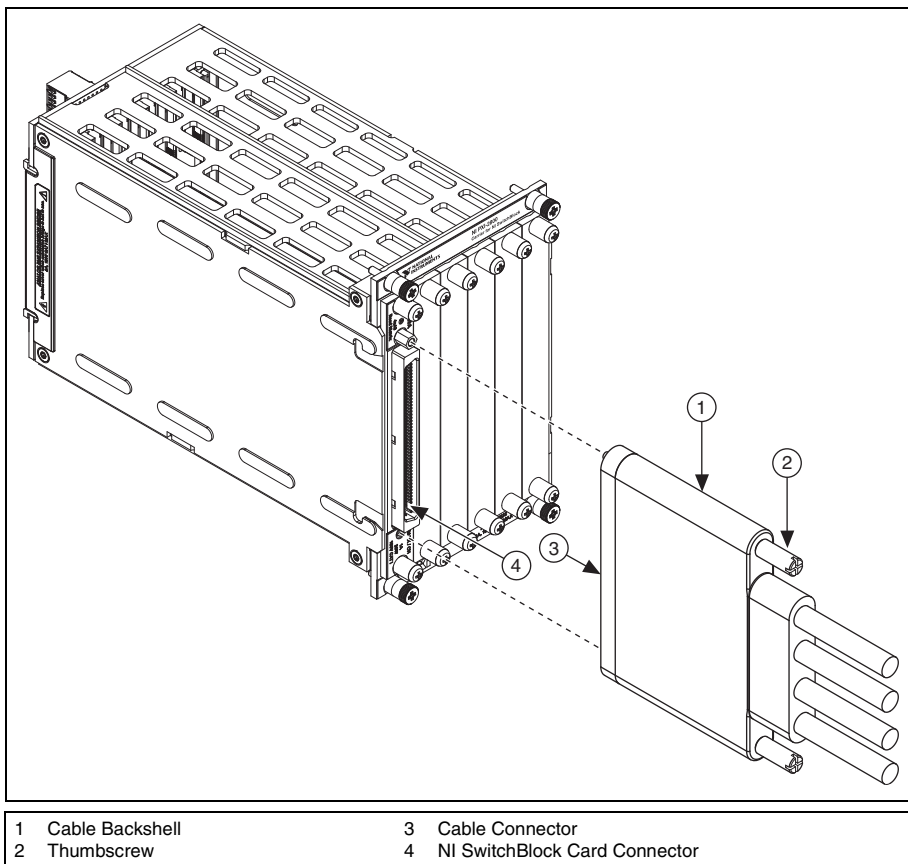

Figure 2. Connecting the Cable to the NI SwitchBlock Card
1. Connect the female end of the cable to the NI SwitchBlock card connector as shown in Figure 2. The standoff on the front panel must align with the recess around the top thumbscrew of the cable.